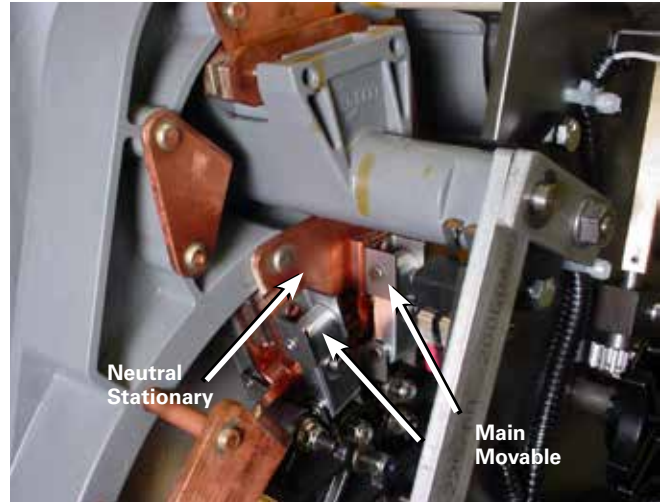

Figure 74. Neutral position for main movable contacts.
- A. Main movable contacts are located on the neutral stationary contact, which is located at the 11 o'clock position and under the reversing switch movable contact assembly. See Figure 74.